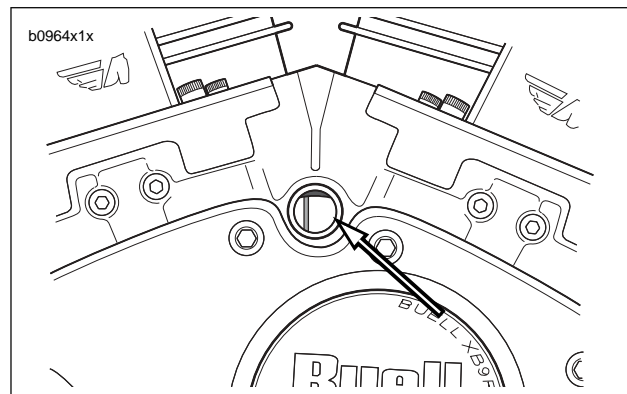

Figure 1-46. Advanced Timing
2. See Figure 1-46. If timing is advanced (mark appears on left side of window) rotate timing plate counterclockwise.